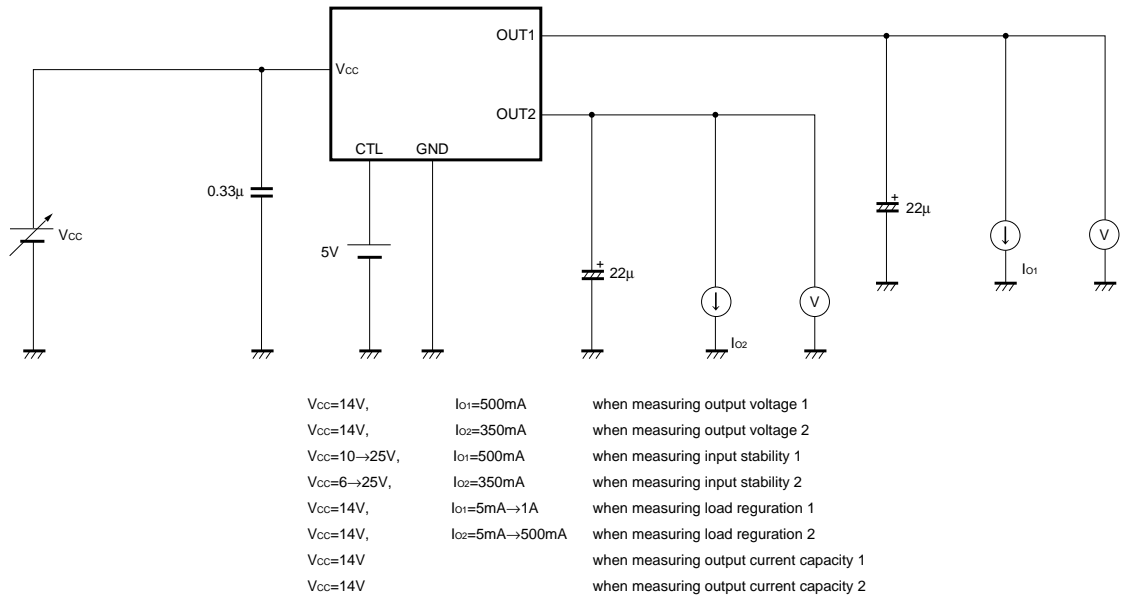

Fig.1 Circuit for measuring output voltage, input stability, load regulation, and output current capacity
Figure 1 is a graph showing the Load Regulation Characteristics. The Y-axis is Output Voltage : V_O (V) ranging from 0 to 12. The X-axis is Output Current : I_O (mA) ranging from 0 to 2000. The graph shows two curves, V_{O1} and V_{O2} , representing the output voltage regulation for different load currents. The conditions are $V_{CC}=14V$ and $T_a=25^\circ C$.
Figure 1 is a line graph showing Power Dissipation (P_d) in Watts (W) on the Y-axis versus Ambient Temperature (T_a) in degrees Celsius ($^{\circ}\text{C}$) on the X-axis. The Y-axis ranges from 0 to 28 W in increments of 4. The X-axis ranges from 0 to 150 $^{\circ}\text{C}$ in increments of 25. There are four curves labeled (1) through (4), representing different heat sink conditions:
- (1) With infinite heat sink: A horizontal line at $P_d = 22$ W from $T_a = 0$ to 25 $^{\circ}\text{C}$, then a solid line to $(75, 12)$, and a dashed line to $(150, 0)$.
- (2) With Al heat sink $100 \times 100 \times 2$ (mm): A horizontal line at $P_d = 11.5$ W from $T_a = 0$ to 25 $^{\circ}\text{C}$, then a solid line to $(75, 11.5)$, and a dashed line to $(150, 0)$.
- (3) With Al heat sink $50 \times 50 \times 2$ (mm): A horizontal line at $P_d = 6$ W from $T_a = 0$ to 25 $^{\circ}\text{C}$, then a solid line to $(75, 6)$, and a dashed line to $(150, 0)$.
- (4) Without heat sink: A horizontal line at $P_d = 2$ W from $T_a = 0$ to 25 $^{\circ}\text{C}$, then a solid line to $(75, 2)$, and a dashed line to $(150, 0)$.